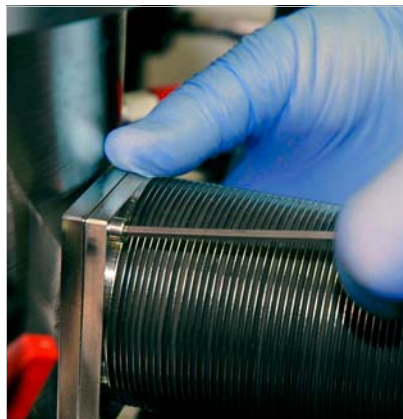

FIGURE 5-7 *Loosely tighten two M4 screws to begin securing the bellows to the chamber*
- a. Loosely tighten two of the M4 screws on diagonally opposing sides that attach the bellows to the chamber (FIGURE 5-7).